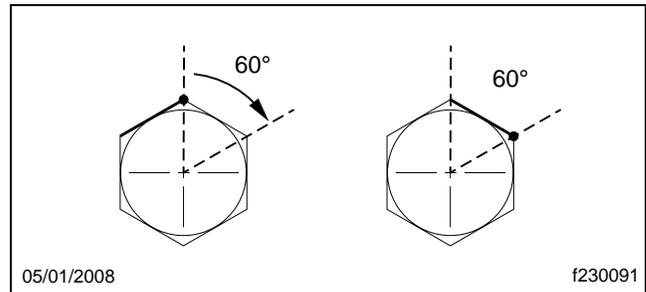

Fig. 2, Turning the Fitting One Flat (60 degrees)
17. Attach the lines to the plumbing adaptors on the steering gear, while ensuring that the lines will not touch the axle or each other once installed. Snug the connection with a wrench to ensure the fittings are seated, which is equivalent to approximately 2 lbf·ft (3 N·m). Then, using a backup wrench to keep the adaptors from turning, tighten the return and supply hoses by 1 flat of the tube nut (60 degrees). See **Fig. 2**.